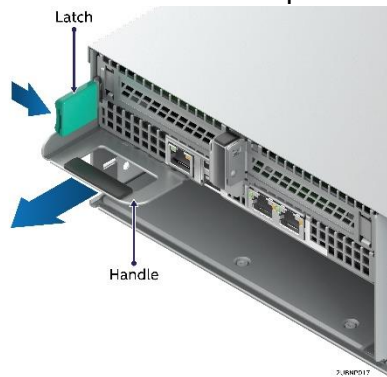

Figure 24. Removing the compute module
1. While pressing the latch, pull out the handle with the compute module (Figure 24).